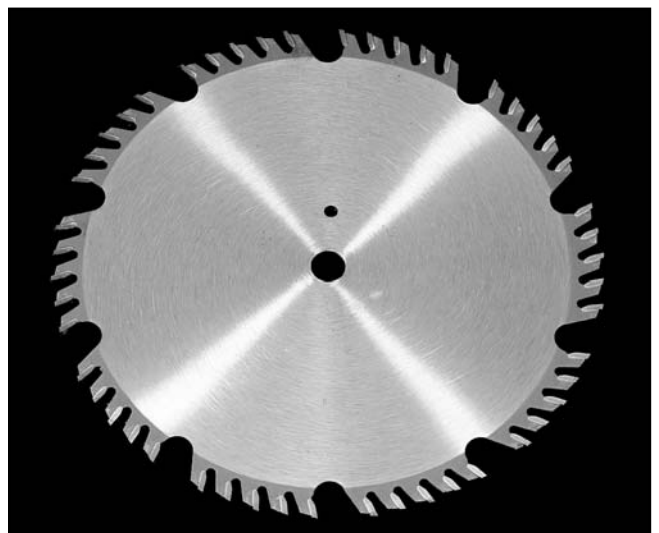

Figure 33.
3. **Combination Blade:** Used for cutting with and across the grain. A compromise between a rip blade and a cross-cut blade, a combination blade will typically have between 40-80 teeth, an alternate top bevel and flat or alternate top bevel and raker tooth profile. The teeth are arranged in groups of five. The gullets are small and shallow within the groups of five, similar to a cross-cut blade, large and deep between the groups, like a ripping blade. **Figure 33.**